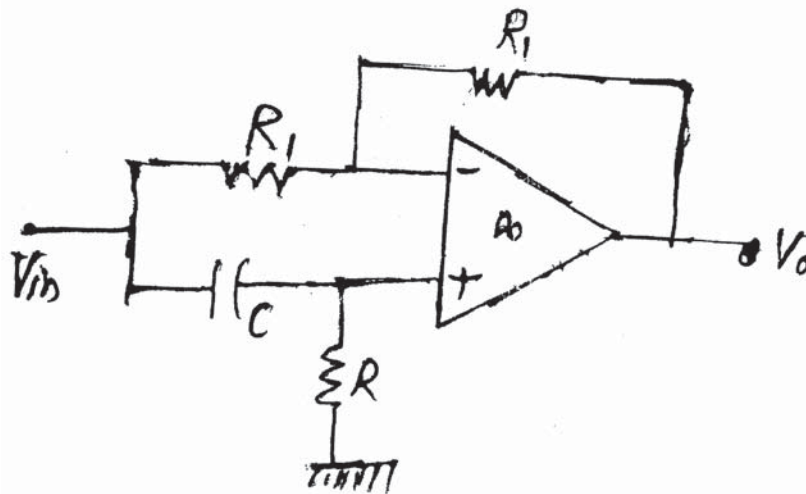

Fig. 1
- c) Obtain the transfer function of the network shown in Fig. 1. Comment on the nature of the transfer function. Give an application of this circuit. 6